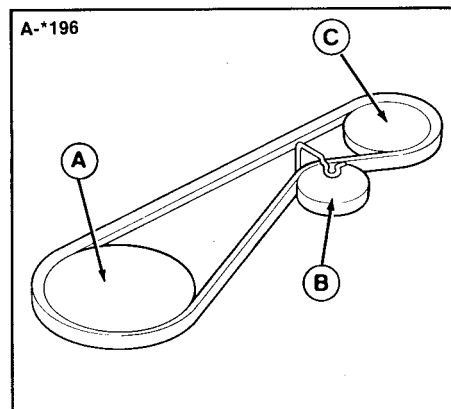

Figure 26. Belt Pattern - 26\" & 30\" Mowers
8. Install the new belt and reverse the removal procedure. The belt pattern is shown in figure 26 or 27. Check belt stop adjustments as instructed on page 24.